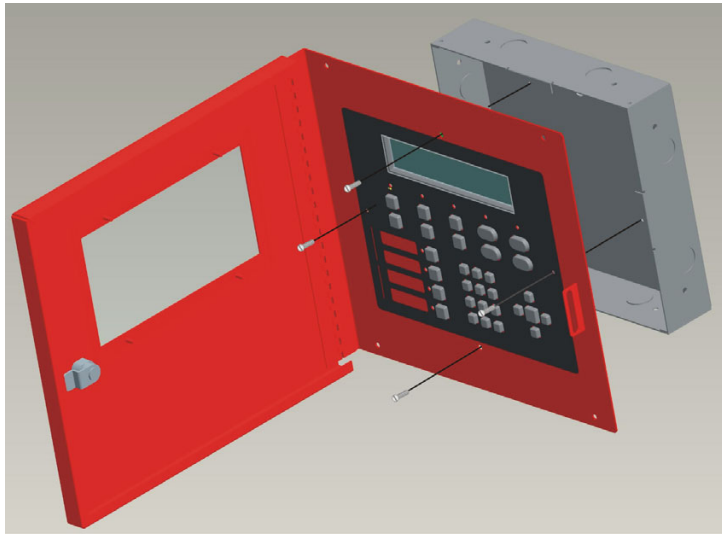

Figure 4-13 Attaching Annunciator / Door Assembly to Backbox
4. Attach the annunciator and door assembly to back box as shown in Figure 4-13 using the supplied screws.